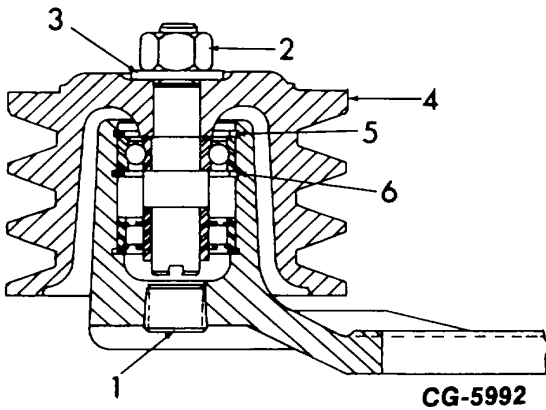

Figure 31. - Fan Idler Assembly with Front Ball Bearing and Rear Roller Bearing
1. Remove the plug (1, Fig. 31).
2. Remove the nut (2) and washer (3).
3. Using a suitable puller, remove the pulley (4).
4. With a snap ring pliers, remove the outer snap ring (5).
7. Using a snap ring pliers, remove the inner snap ring (6, Fig. 31).